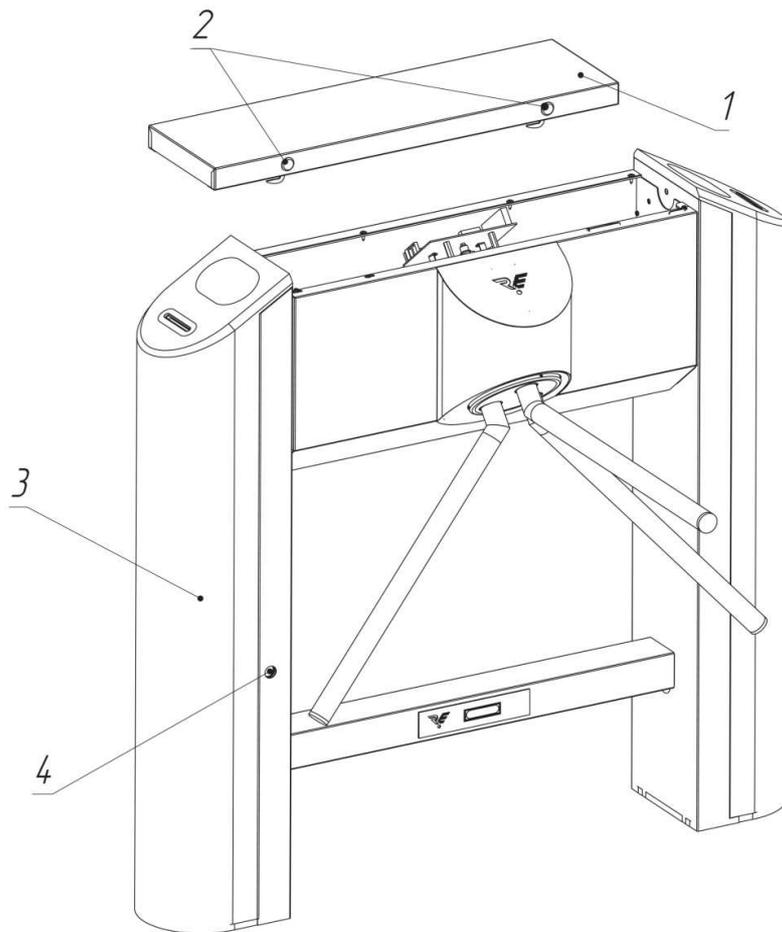
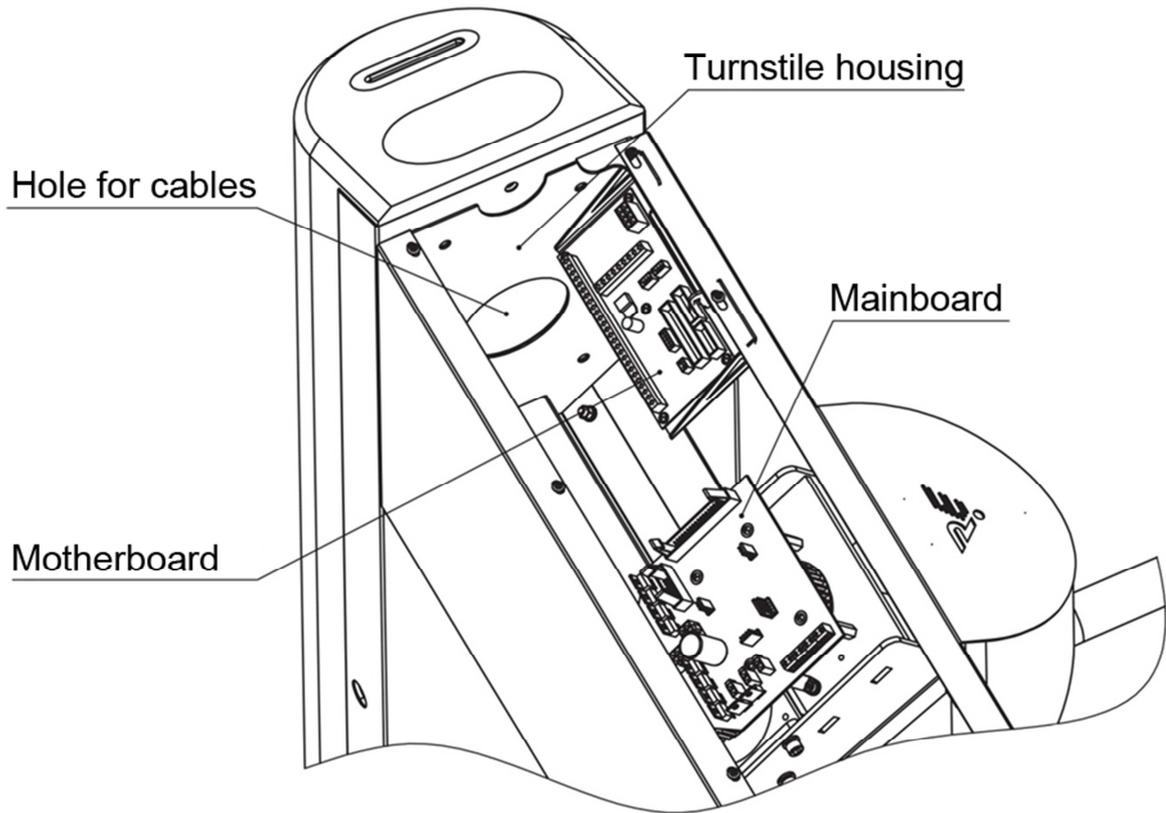

Fig. 6 Preparing for installation
Fig. 7 Location of motherboard
4.2.7. Set the turnstile on the prepared site (Fig. 5). Open the lock (2, Fig. 6) and remove upper cover (1, Fig. 6). Open stand lock (4, Fig. 6) and open the hatch (3, Fig. 6)
Connection of RC, PS and ACS is performed with the use of motherboard. In order to do it, remove the housing cover (1, Fig. 6) with a key. Fig. 7 shows the location of motherboard in the turnstile.